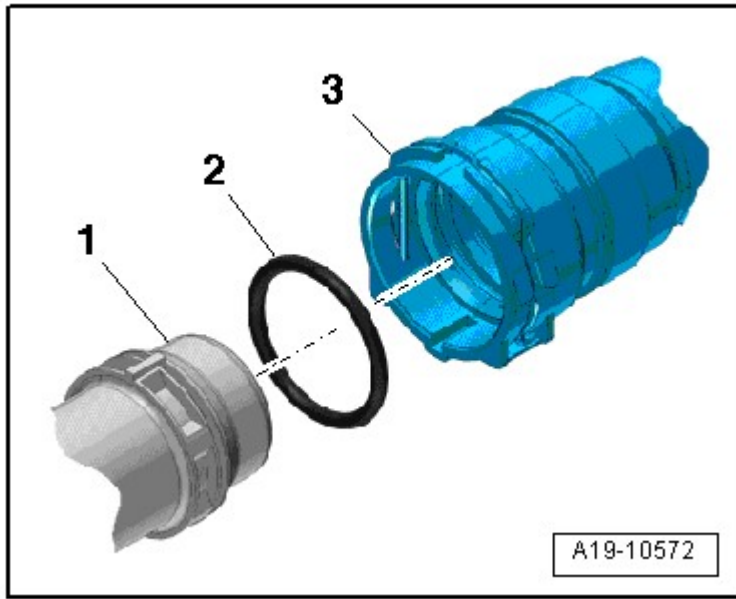

Fig. 189: Connecting Coolant Hose To Coupling
- Connect the coolant hose to the coupling. Refer to **Fig. 189**.